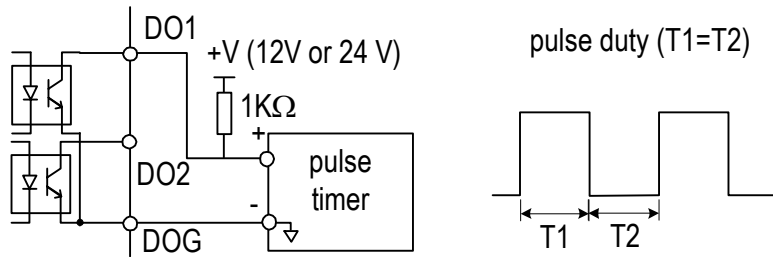

Fig. 43. Pulse signal output
(37) Pulse Output Multiplication-Gain Selection (Sn-35)
- If the multi-function output terminal (DO1) be set as pulse output (when Sn-31 or Sn-32= 14), the final output pulse frequency is the multiple (according to Sn-35) of the inverter output frequency. Refer to Fig. 43 for pulse signal output.